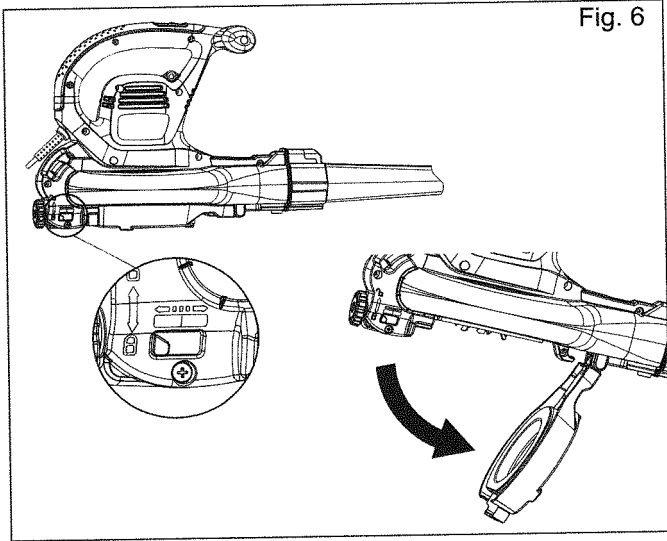

Fig. 6
2. Rotate the lock knob to unlock the cover (The indicator is on the far left position, Fig. 6).